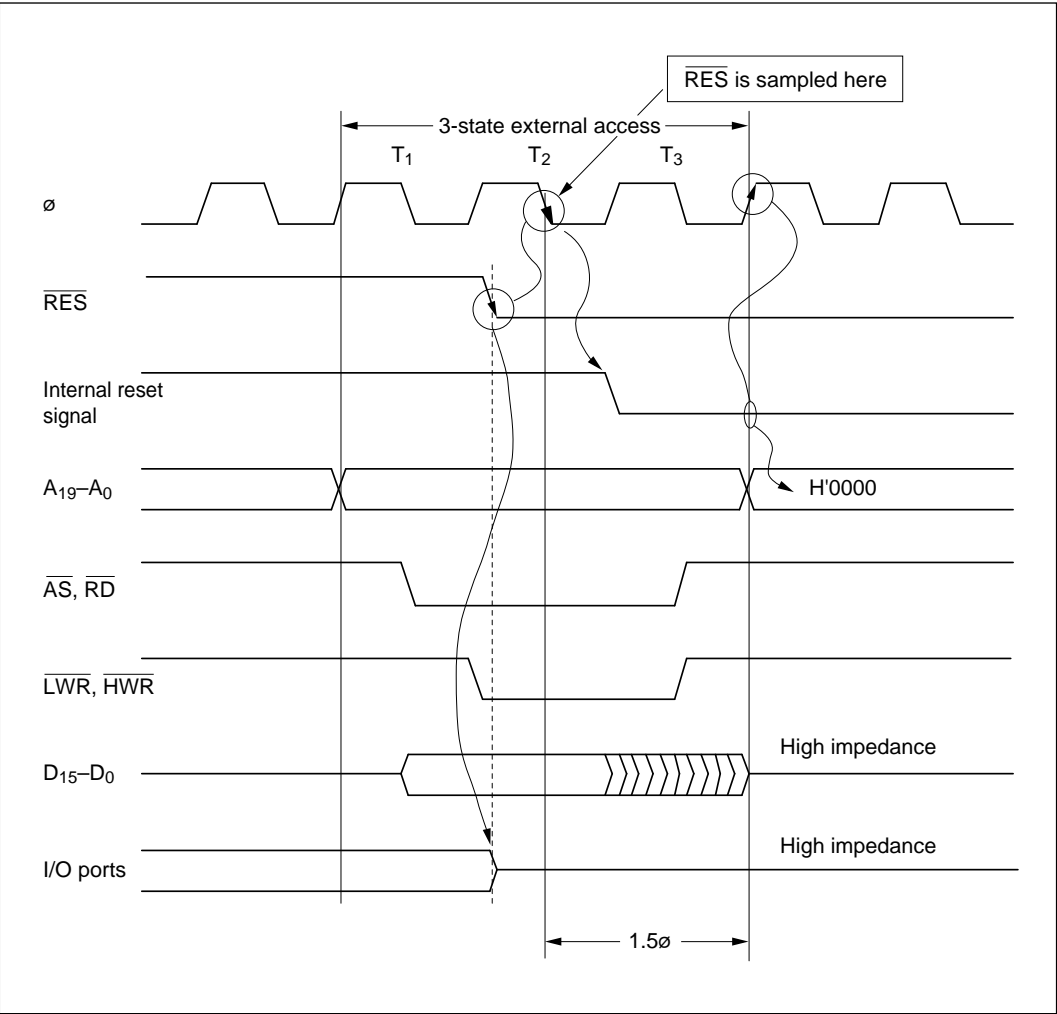

Figure G-3 Reset during Three-State Access (Modes 3 and 5)
(3) Modes 3 and 5: Figure G-3 is a timing diagram for the case in which $\overline{\text{RES}}$ goes low during three-state access in mode 3 or 5. As soon as $\overline{\text{RES}}$ goes low, all ports are initialized to the input state. $\overline{\text{AS}}$, $\overline{\text{RD}}$, $\overline{\text{LWR}}$, and $\overline{\text{HWR}}$ go high, and D_{15} to D_0 go to the high-impedance state. A_{19} to A_0 are initialized to the low state 1.5 system clock cycles (1.5ϕ) after the low level of $\overline{\text{RES}}$ is sampled.